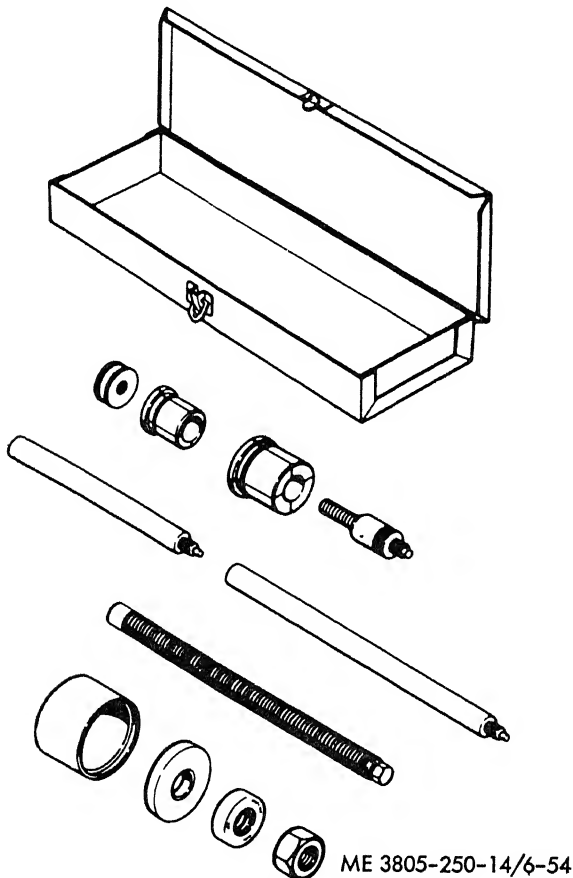

Figure 6-54. Bushing puller set.
(2) To hold the push rod lifters (13) in a raised position while removing the camshaft, insert wires with a small bend on the end down each push rod hole and into the lifter. Pull upward to raise the lifter and bend the wire over the top of the block.
(3) Pull the camshaft and gear assembly from the engine. Press the camshaft gears (5 and 6) from the shaft. Remove the thrust washer (7) and key (8) from the shaft (9).
(4) Check the camshaft bushings (10, 11 and 12) for wear. If the bushings must be replaced, refer to figure 6-54 and use puller set A41103 to remove the bushings.
(1) Install new camshaft bushings (10, 11 and 12, fig. 6-53) if they were removed. Install with puller set A41103 as shown in figure 6-54 so that the oil holes are aligned with the holes (A) in the block.
*Note.* The oil holes (B) do not align with the oil holes in the block.